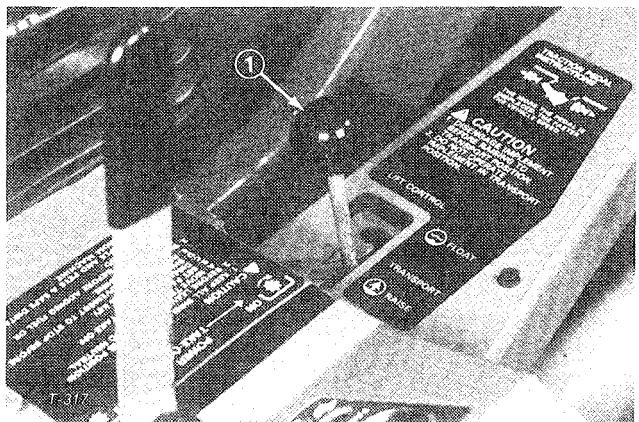

Figure 21
**Lift Lever** (Fig. 21)—The hydraulic lift lever has three positions: FLOAT, TRANSPORT, and RAISE. To lower implement to the ground, move lift lever forward into notch, which is the FLOAT position. The FLOAT position is used for operation and also when machine is not in operation. To raise implement, pull lift lever backward to the RAISE position. After implement is raised, allow lift lever to move to the TRANSPORT position. Normally, implement should be raised when driving from one work area to another, except when descending steep slopes.